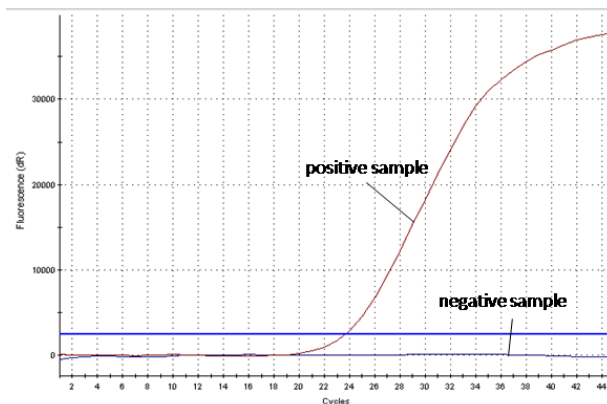

Figure 1: The positive sample shows amplification signal in the bacteria specific channel (FAM/Cy5), whereas no fluorescence is detected in the negative sample.
**Figure 1** and **Figure 2** show examples for positive and negative real time PCR results.